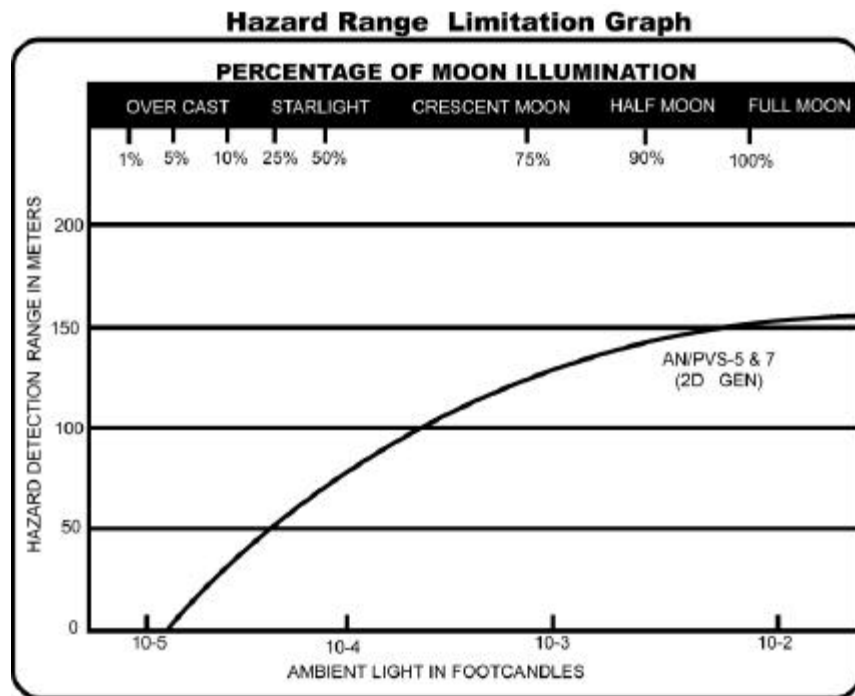

Figure C-1. Hazard range limitation graph
**C-1. HAZARD RANGE LIMITATION GRAPH.** Figure C-1 shows how to determine the maximum range at which an object can be identified. It addresses a hazard 3 meters long, and 15 centimeters in diameter (the size of a small pole or a bare tree).